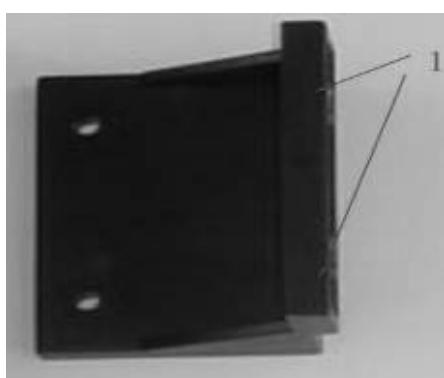

Figure 1
1. First fix the two plastic pieces indicated in fig. 1 and 2 through two 30 mm round head square neck bolts and 2 knurled knobs. In fig. 1, number 1 indicates the holes you must use only in final phase. These two pieces are used as vertical clamp for the workpiece.
5. Then fix the horizontal clamp on machine's workbench. The arrows indicate the positions in which you have to fix the metal part and log plastic piece on the workbench by using 2 M5 bolts. Lastly, use two 2 M5 10 mm hexagonal headed bolt and two 10 mm nuts in order to fix the part illustrated in fig. 3 to the main part thanks to the two holes marked with no. 1 (Fig.1). The main part of the assembly is finished. You can check that all parts are correctly assembled in order to grant a suitable safety level while you are using the machine.